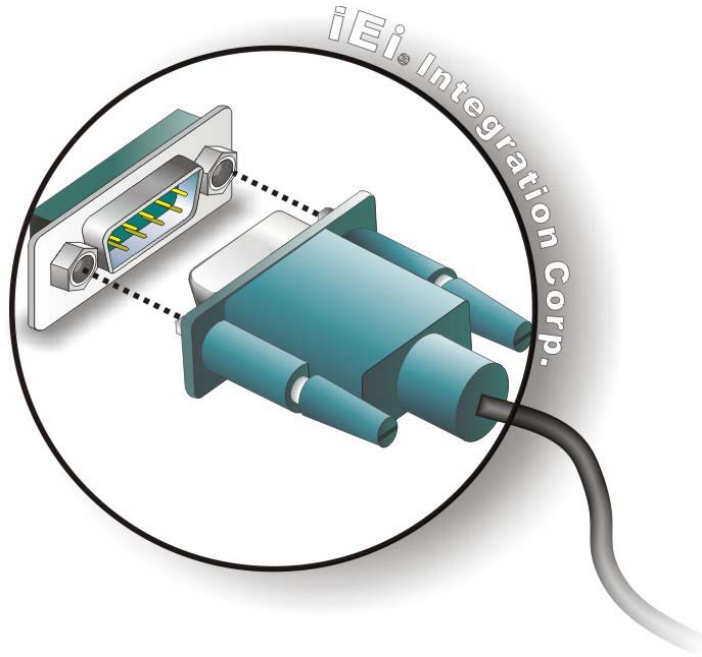

Figure 4-17: Serial Device Connection
- Step 2:** **Insert the serial connector.** Insert the DB-9 connector of a serial device into the DB-9 connector on the external peripheral interface. See **Figure 4-17**.